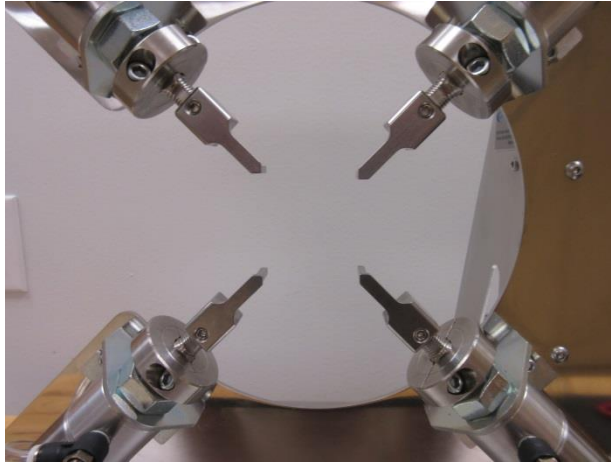

Figure 6
- Activate the expander by pressing on the foot pedal and keep it depressed while performing the jaw removal and installation. **(Figure 6)**